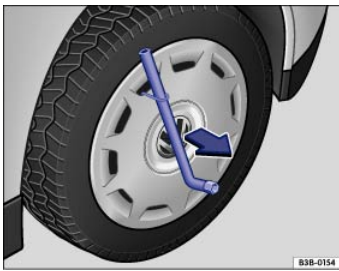

Fig. 194 Pulling the wheel cover off.
- Slide the lug wrench through the clip ⇒ Fig. 194 and pull the wheel cover off in the direction of the arrow.